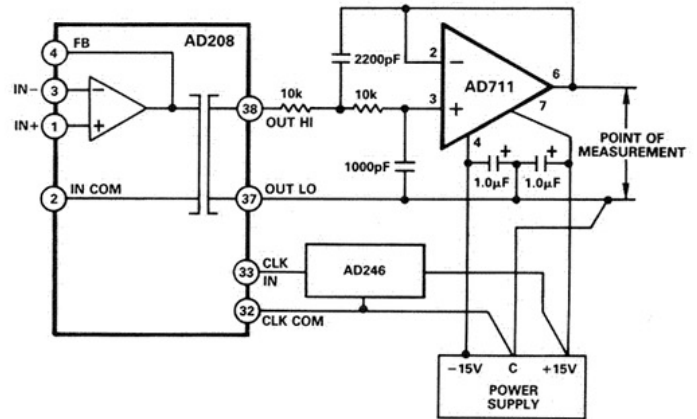

Figure 33. Output Filter Circuit Showing Proper Grounding
**Output Filter Circuit.** Except at the highest useful gains, the noise seen at the output of the AD208 will be almost entirely comprised of the carrier ripple at multiples of 25 kHz. The ripple, when measured over a 100 kHz noise bandwidth, is typically 2 mV pk-pk near zero output and increases to approximately 7 mV pk-pk for outputs of  $\pm 5$  V. The simple two-pole, 5 kHz low-pass Butterworth filter of Figure 33 can be used to reduce the output ripple of the AD208 to approximately 0.1 mV pk-pk and serve as an output buffer for the AD208.
An output buffer or filter may sometimes exhibit voltage spikes on the output even though none were present on the input signal to the buffer/filter. These spikes are usually due to clock noise appearing at the op amp's power supply pins, since most op amps have little or no supply rejection at high frequencies. Another common source of clock-related noise is from the sharing of the ground track by both the output circuit and the power input. The circuit of Figure 33, shows how to avoid these clock noise related problems.
Ideally, the output signal LO lead and the supply common should be tied together at the final signal measurement point as indicated in Figure 33. It may be useful to bypass the output LO to the output common with a 0.1  $\mu$ F capacitor should the measurement point be more than a few feet from the isolator.